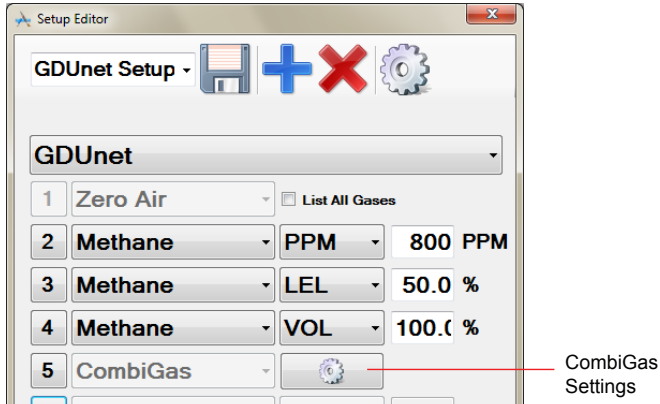

Fig. 3-12 Select 'CombiGas Settings'
- To edit default template, select the 'CombiGas Settings' button, as illustrated in Fig. 3-12.